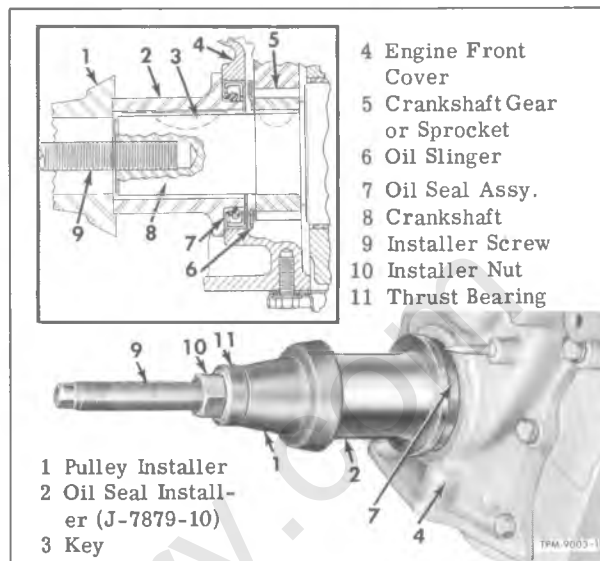

Figure 38—Front Cover Oil Seal Installation (with Cover Installed on Engine)
1. Lubricate oil seal lip with engine oil, then turn engine crankshaft so key (3, fig. 38) is at top as shown.
2. Locate new seal assembly at bore in front cover with seal lip pointing inward, then assemble special tool components in manner shown in figure 38.